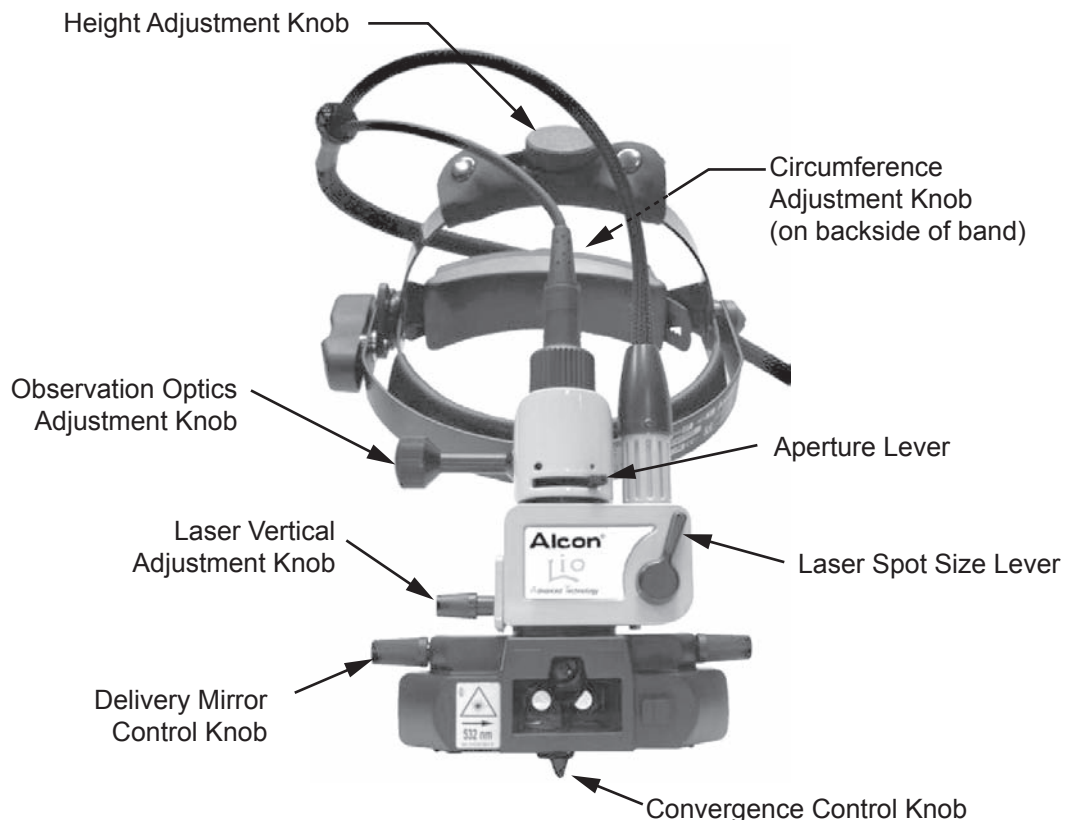

Figure 6-12 LIO-AT Controls and Adjustments
The Aperture Lever (see Figure 6-12) allows you to choose between two different-sized illumination fields. The choice of illumination field size depends mainly on the size of the patient's pupil (the small illumination field is the recommended setting). The positions of the Aperture Lever for large and small illumination fields are marked with large and small black dots, respectively.
11. Select the laser spot size using the Laser Spot Size Lever (see Figure 6-12). The positions of the Laser Spot Size lever for large (approximately 1mm) and small (approximately 0.5mm) laser spot sizes are marked with large and small black dots on the right side of the box, respectively. The change of laser spot size from large to small results in approximately four times increase in irradiance within the treatment area, provided that laser power was not adjusted.
13. Use the Laser Vertical Adjustment Knob (see Figure 6-12) on the laser delivery adaptation to aim the laser at the desired location within the illumination field.